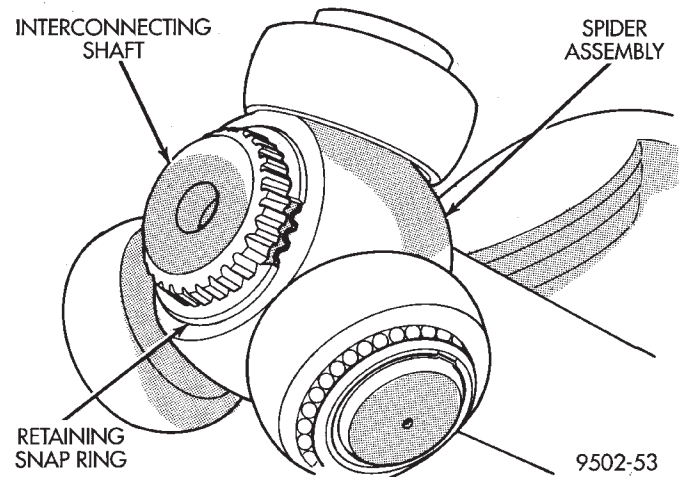
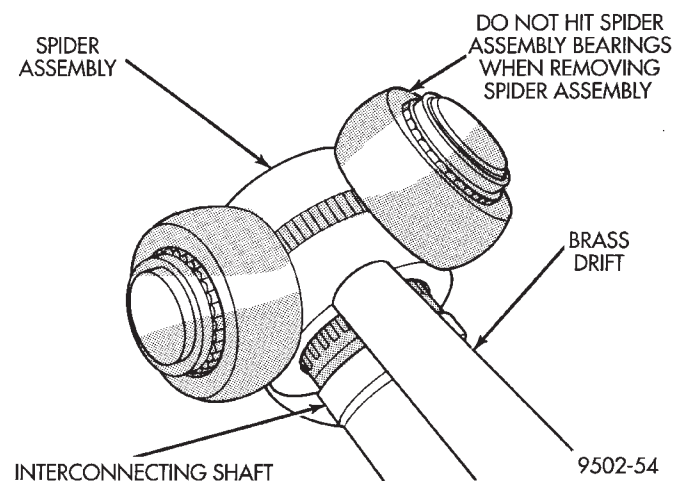

Fig. 27 Spider Assembly Retaining Snap Ring
Fig. 28 Spider Assembly Removal from Interconnecting Shaft
(4) Remove snap ring which retains spider assembly to interconnecting shaft (Fig. 27). Remove the spider assembly from interconnecting shaft. If spider assembly will not come off interconnecting shaft by hand, it can be removed by tapping spider assembly with a brass drift (Fig. 28). **Do not hit the outer tripod bearings in an attempt to remove spider assembly from interconnecting shaft.**